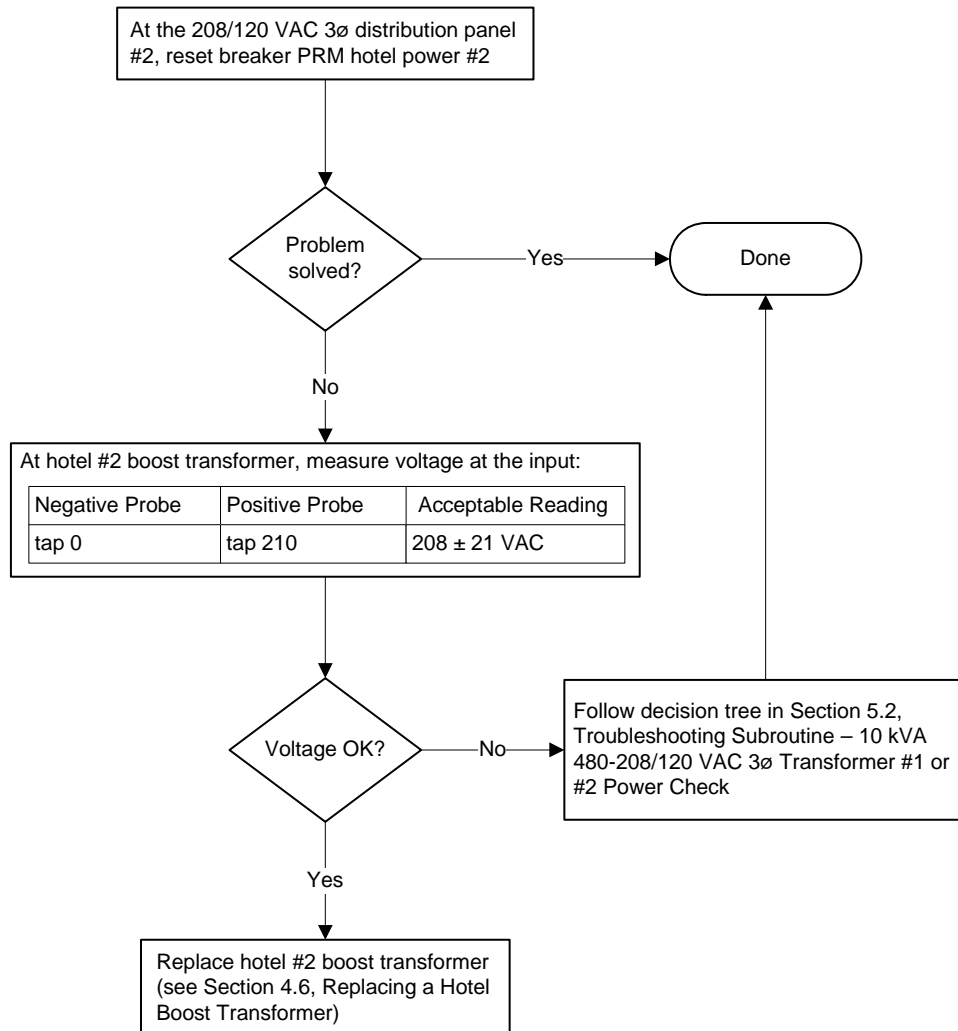

Figure 3 Troubleshooting – PRM Hotel Power #2 Doesn't Work
1. Follow the troubleshooting steps in Figure 3.